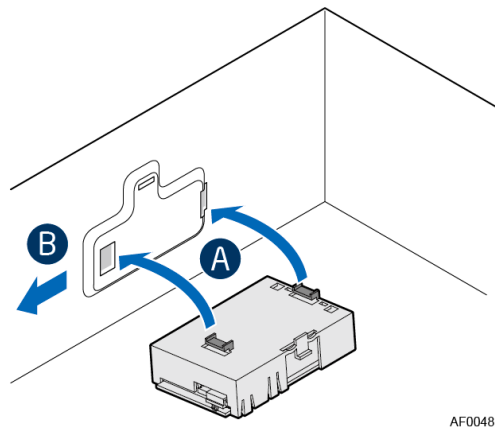

Figure 5. Connecting the Plastic RMFBU2 Holder to the Chassis
2. Align the tabs on the plastic RMFBU2 holder with the clips on the chassis (See **A** in Figure 5).
3. Slide the plastic RMFBU2 holder toward the front of the system until the tabs engage with the clips in the chassis (See **B** in Figure 5).